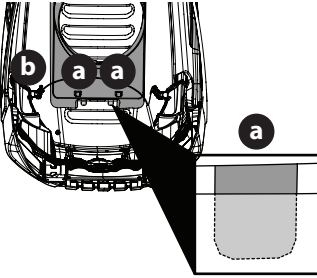

Figure 11
- With the rear tabs installed, insert the front tabs (a) on the plenum (b) (Figure 11).